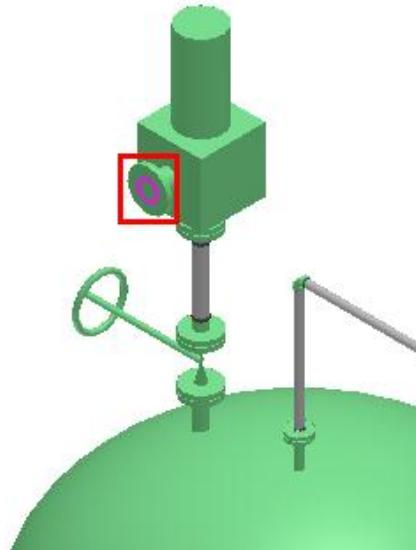

Figure 11. 26: End Feature of Relief Valve
11. Change the following specifications in the **Pipe End Feature Properties** dialog box, as shown in Figure 11. 27, and click **OK**.